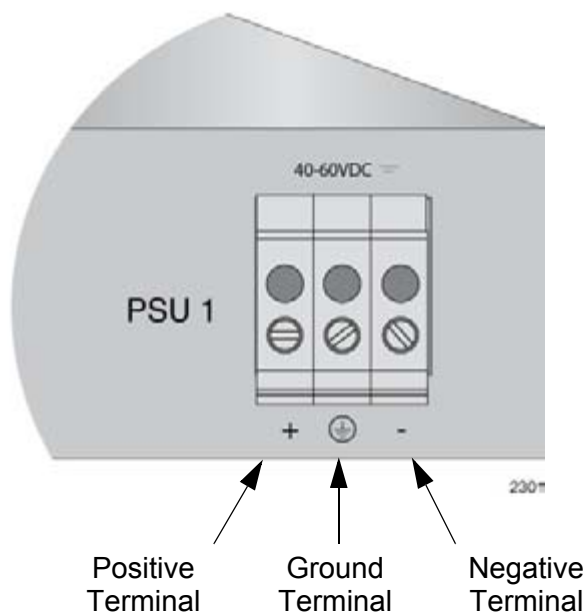

Figure 41. DC Terminal Block
2. Use the legend below the terminal block to identify the terminals. The terminals are **positive**, **power supply ground**, and **negative**, from left to right, as shown in Figure 41 on page 98.